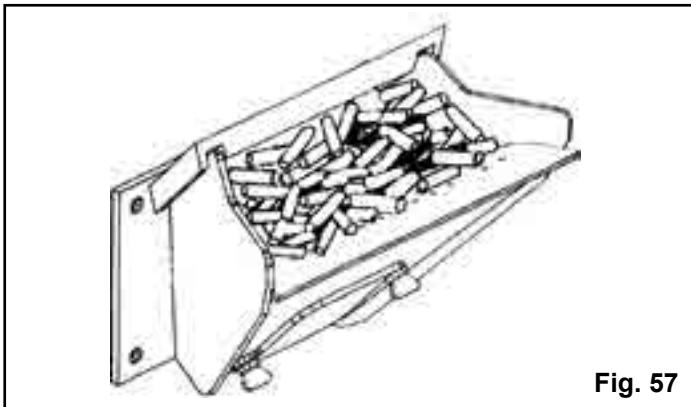

Fig. 57
8. Fill burnpot with pellets as shown. See Fig. 57. Only fill level with the front edge. ( ----- DO NOT OVERFILL ----- )